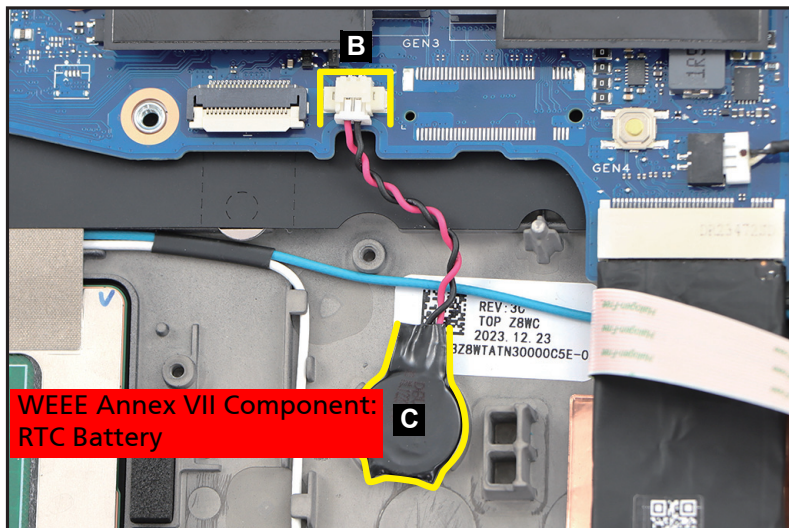

Figure 1-33. RTC Battery Removal
2. Disconnect the RTC battery cable from the mainboard connector (B) (Figure 1-33).
3. Using plastic tweezers, carefully pry to detach the adhesive tape underneath the RTC battery (C) (Figure 1-33). Then remove the RTC battery.